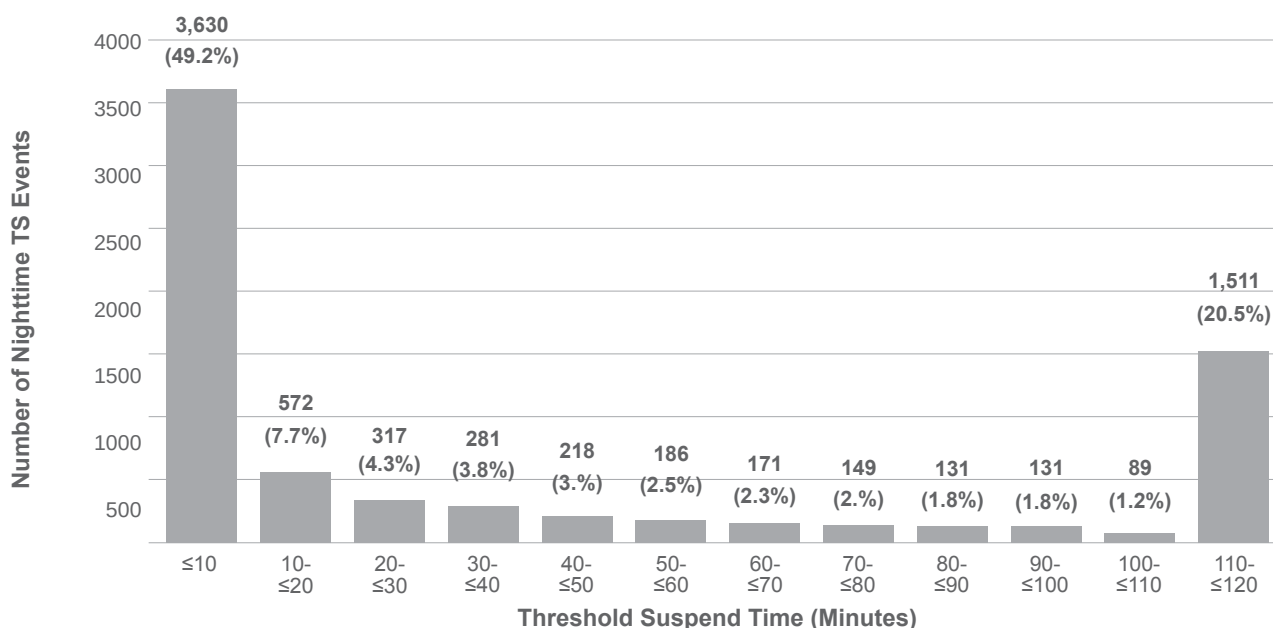

Figure 3 - Threshold Suspend duration (Minutes).²
- Nighttime Only: Insulin was most likely (49.2%) to be suspended for 10 minutes or less but one out of five (20.5%) TS events lasted for 110 minutes or longer (**Figure 3**).